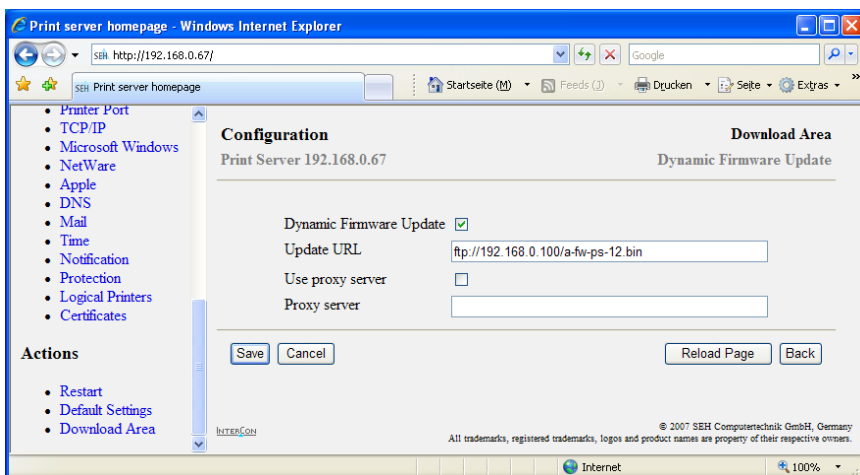

Fig. 54: Print Server Homepage - Dynamic Update
3. *Select **Actions – Firmware Update** from the menu bar. The **Dynamic Update** dialog appears; see Fig. 54 ⇨ 200.*